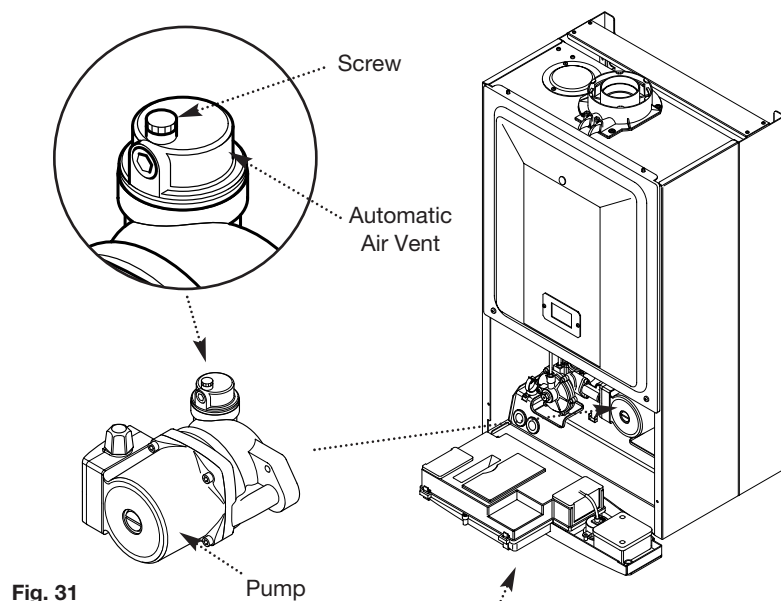

Fig. 31
5. Open the screw on the automatic air vent (Fig. 31).